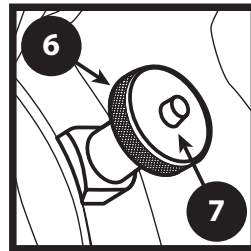

FIGURE 5
9. Ensure that the abrasive belt is tensioned properly. To do this, raise the tensioning handle (Figure 5). You will hear mechanical clicks as the tensioning ratchet moves. Generally, the belt will be adequately tensioned when you hear three to eight clicks. To reduce or release the belt tension slightly raise the tensioning handle then press the button in the center of the tensioning handle. Move the tensioning handle down slightly to reduce belt tension or all the way down to release belt tension.